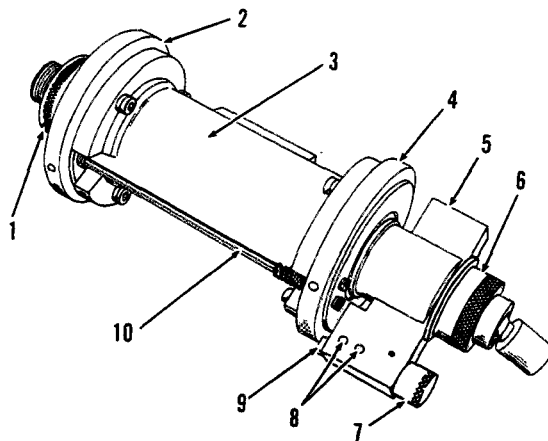

FIG. 12 CYLINDER SLEEVE RESEATING
3. Remove one short and one long capscrew with lockwasher securing oil pump and alternator mounting bracket to front cover; slide the oil pump out of the oil pump drive gear and remove from front cover. Remove the gasket, Fig. 12 (4).
e. Install the tool holder and tool bit, Fig. 12.
- a. Loosen the two small setscrews, Fig. 12, that secure the tool bit in the tool holder. Turn the tool bit adjusting knob counterclockwise as far as possible by hand, and raise the tool bit to a safe position so the cutting edge cannot be damaged while installing tool assembly in block.